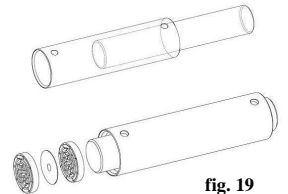

fig. 19
- Slide the pushing rod into the whipping pipe and push-out the 13 whipping discs (plastic) and 12 intermediate discs (metal) (resp. the whole whipping column) (fig. 19)